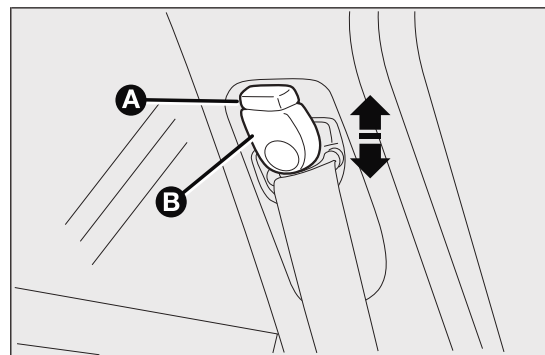

fig. 101
To adjust, press button A fig. 101 and raise or lower handle B.
***After adjustment, always check that the cursor to which the ring is fastened is locked in one of the preset positions. To do this, with the button A fig. 101 released, exert a further pressure to allow the anchor device to catch if release did not take place at one of the preset positions.***